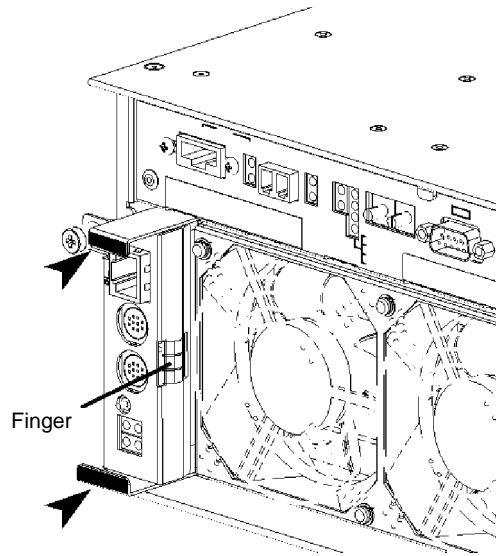

Figure 3-14. Completing the Installation of the SVP Service Processor
5. When the SVP is in position where the finger on the right side of the SVP service processor is as shown in Figure 3-14, push the projections at the top and bottom of the SVP Service Processor until it is firmly seated in the chassis.